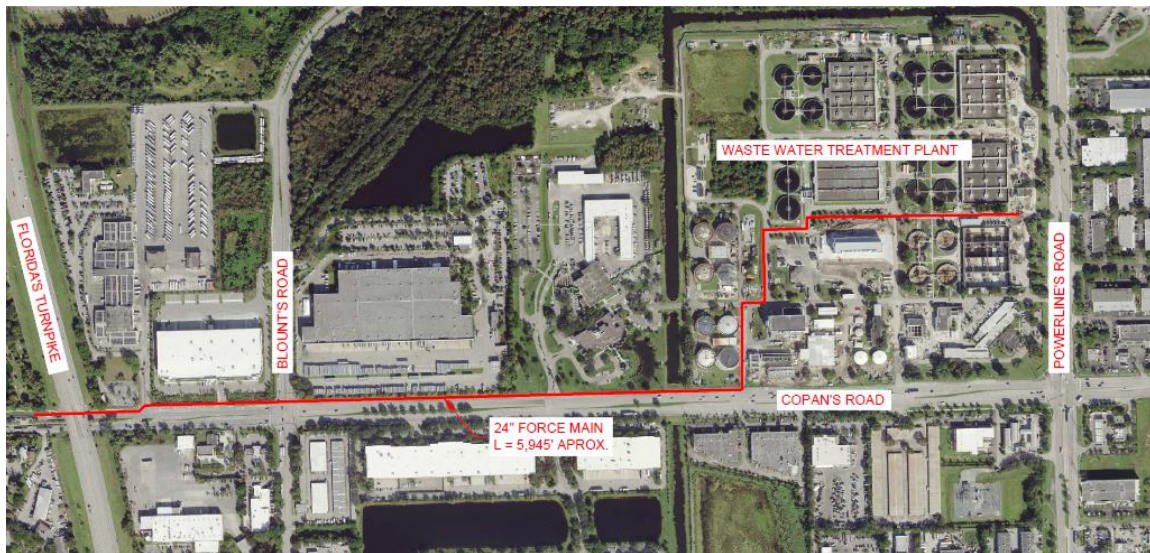

Figure 1. Survey Limits (Image Courtesy of Google).
The survey limits proposed for this survey task include a 40-foot corridor immediately adjacent and along West Copans Road, and a segment of FM corridor inside the WW Plant Facility, as shown on Figure 1, below.
The work consists of the topographic and existing conditions survey of the FM corridor segments shown on Figure 1.
2. Existing Conditions Survey – We will perform Existing Conditions Survey of the FM corridor, outlined on figure 1, including but not limited to abutting road frontage, property corners found, fences, trees with a 4" or larger DBH, shrubbery and dense wood area demarcation, buildings, etcetera.